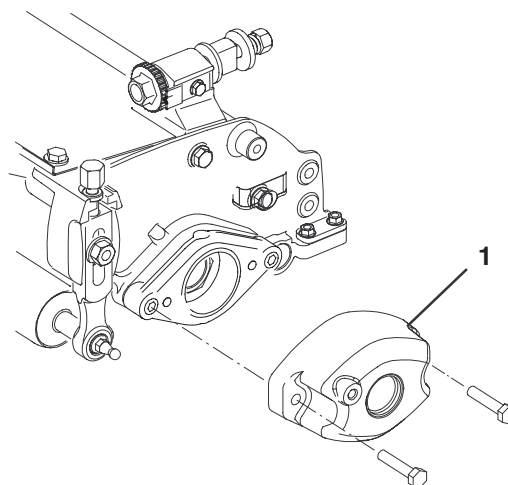

Figure 13
- A. Remove the 2 capscrews securing the counter weight to the left end of the cutting unit. Remove the counter weight (Fig. 13).